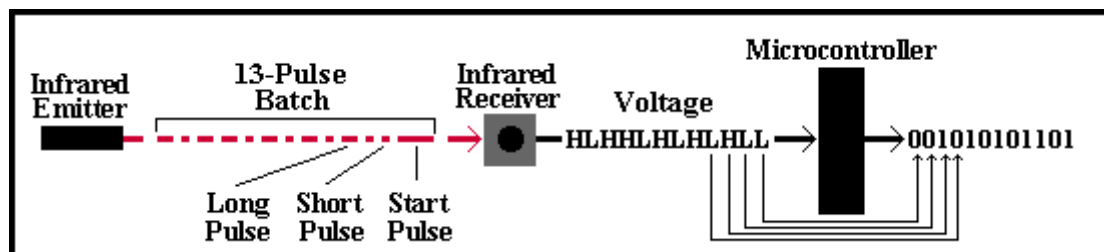

Figure 5. Translating infrared pulses into 1s and 0s.
The signal from the remote control is not a continuous beam of infrared light--it is a series of intermittent short and long pulses. The receiver translates these short and long pulses into periods of high voltage (5 volts) and low voltage (0 volts), which the microcontroller interprets as 1s and 0s. Figure 5 shows how this works.
The pulses from the infrared emitter are sent in batches, with 13 pulses in each batch. The first pulse is a "start" pulse, which signals that a batch is starting. Each of the next 12 pulses is either long or short, with long pulses representing 1s and short pulses representing 0s. If you look closely at Figure 5, you will notice that, after the start pulse, the infrared receiver sends a high voltage signal for every long pulse it receives and a low voltage signal for every long pulse it receives. The microcontroller then interprets these signals as 1s and 0s, respectively, and arranges them into 12-digit strings, such as 001010101101.
1. Insert two AAA batteries in the remote control, as shown above in Figure 5. ***Batteries are not included with Remote Expansion Pack.***
1. Insert two AAA batteries in the remote control, as shown above in Figure 5. *Batteries are not included with Remote Expansion Pack.*